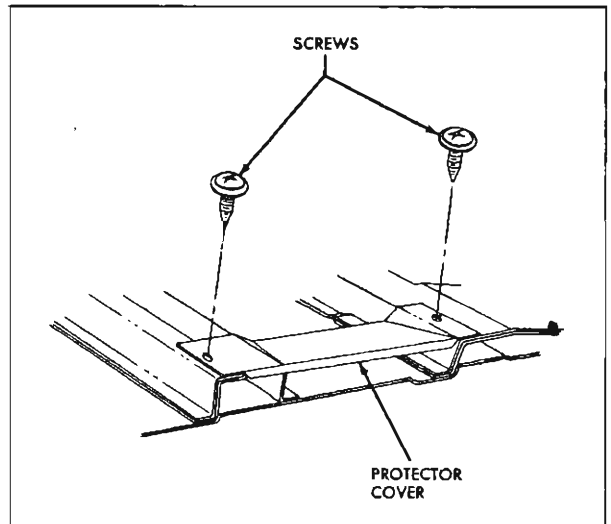

Fig. 17-4 Front Seat Side Protector Cover
2. Remove screws shown in Fig. 17-4 securing cover to floor pan and remove cover.